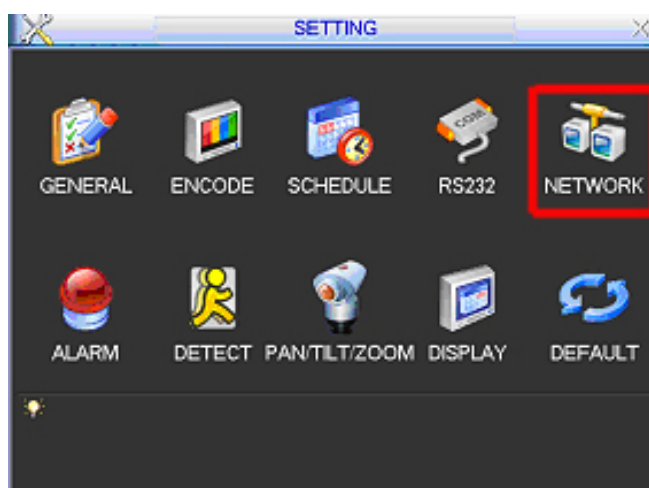
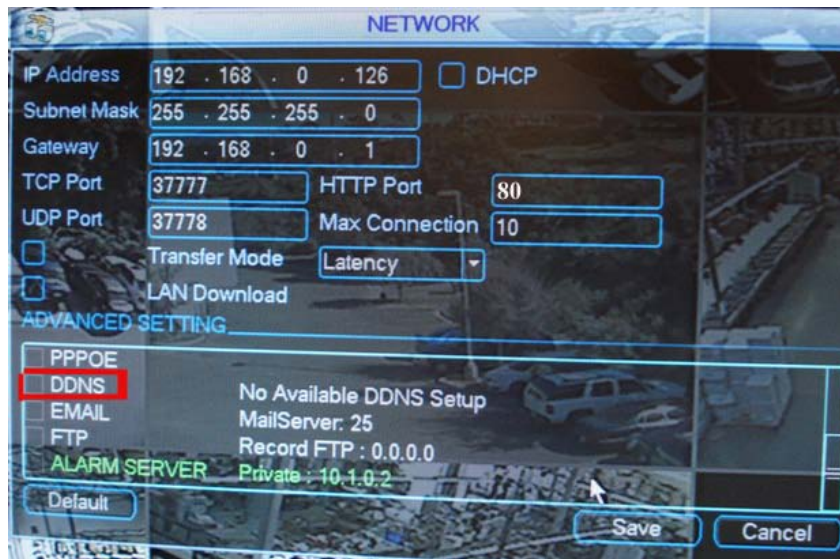

Figure 8-3
Figure 8-4
- e. Once you have completed steps a-d, go to the DVR and go to Menu→ Settings, Network (Figure 8-3).
- f. Clicking on Network (RED box in Figure 8-3) will generate a Network settings dialog box as illustrated in Figure 8-4. Checking the [DDNS] box (RED box in Figure 7-4) will display a DDNS setting dialog box as illustrated in Figure 8-5.